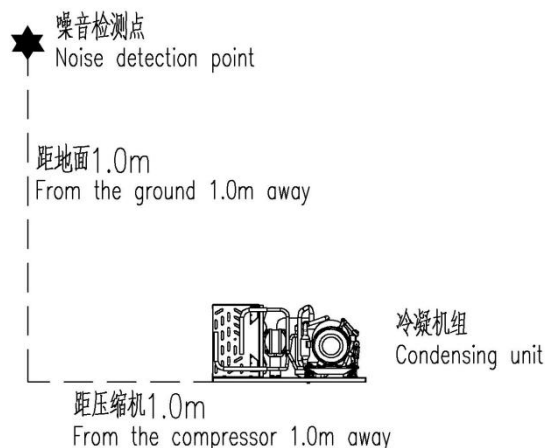

图1 Figure 1
①机组应用于冷冻工况时，建议增加制冷电磁阀，使用负压停机方案；应用于冷藏工况时，建议增加制冷电磁阀；
②当机组加注制冷剂超出最大加注量时，需与我司确认补加冷冻油质量；
③当环境温度低于 10°C 时，需要增加冷凝温度控制；
④噪音检测点位置如图 1 所示。
① When the unit is used in freezing condition, it is recommended to add refrigeration solenoid valve and use negative pressure shutdown scheme; When used in refrigeration conditions, it is recommended to add refrigeration solenoid valve;
② When the unit filling refrigerant exceeds the maximum filling amount, the quality of filling chilled oil should be confirmed with our company.
③ When the ambient temperature is lower than 10°C, the condensation temperature control needs to be added;
④ The position of noise detection point is shown in Figure 1.